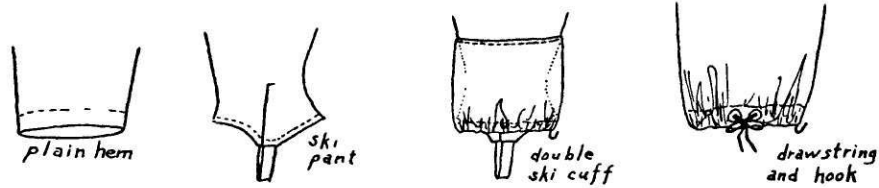

Fig. 3 Pants Cuff Treatments
15. Sew 9" lengths of $\frac{3}{4}$ " web, preferably nylon, into the corners for peg loops. See Fig. 3. Hand sew with heavy nylon thread or
The cuffs of pants present several problems and several styles are usually necessary to satisfy all conditions. A simple hem one inch wide will suffice for most general use. For skiing the lower leg is tapered to a snug fit around the ankle and socks and then flared out a little. A slit is made up the inseam so the foot can go through the narrow part. If this slit has to extend up past the boot top it should be backed by a fabric gusset to keep the snow out. Be careful not to have any hard or bulky seams in the area of the ankle bone as they become very uncomfortable after a few hours of skiing. This conventional ski pant bottom will not keep snow out of the boot top and this can mean cold wet socks and feet during extended trips. Separate anklets to keep snow out of boots will be described later, but the same idea can be sewn right into the pants—a double cuff, one going inside the boots and a second larger cuff sewn to the pants a couple of inches above the boot top with an elastic bottom that comes down well over the boot top. A large hook-eye hook can be sewn to the front edge to hook under the ski boot lace to keep the cuff down. This is a better method than a strap under the foot which soon wears out. (See Fig. 3, Plate IX.)